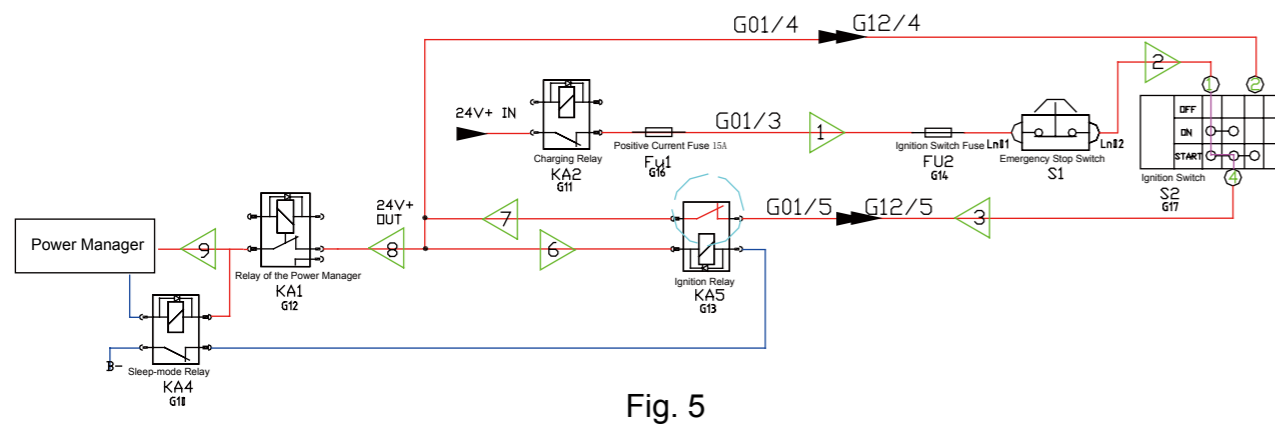

Fig. 5
- The entire forklift is powered on and is stationary without any operation. As shown in Figure 5, the current trend direction of the entire forklift is 1—2—3—7—8—9 ( Ignition switch S1 second gear).